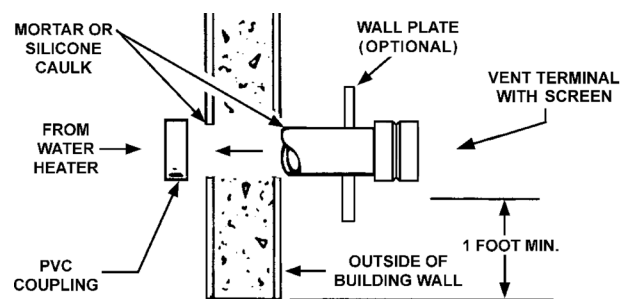
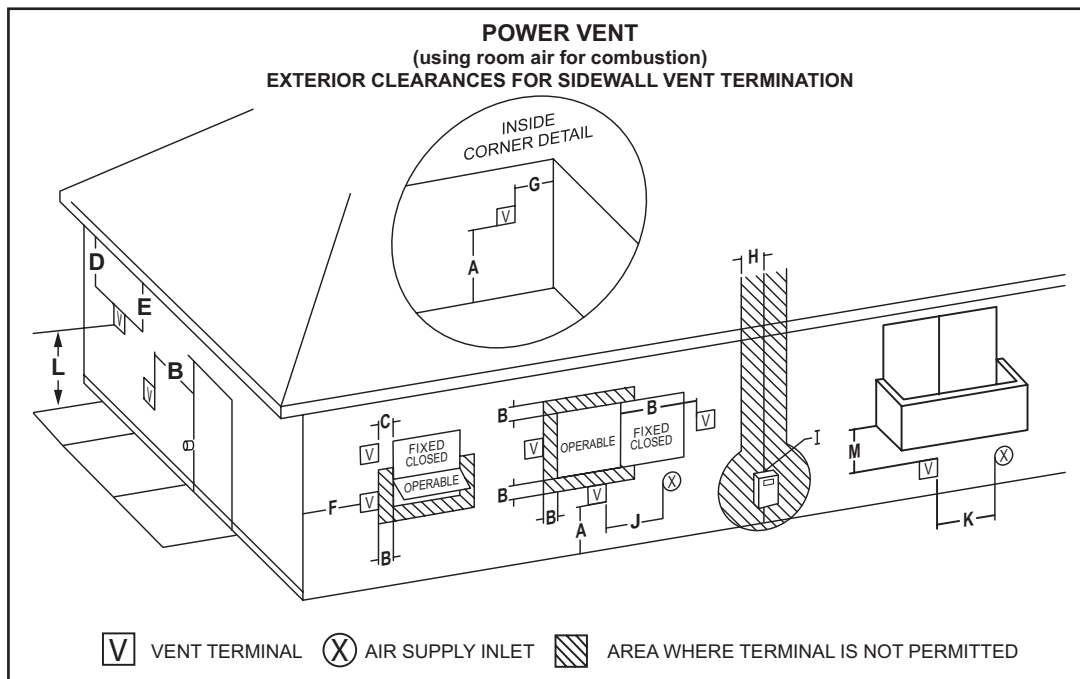
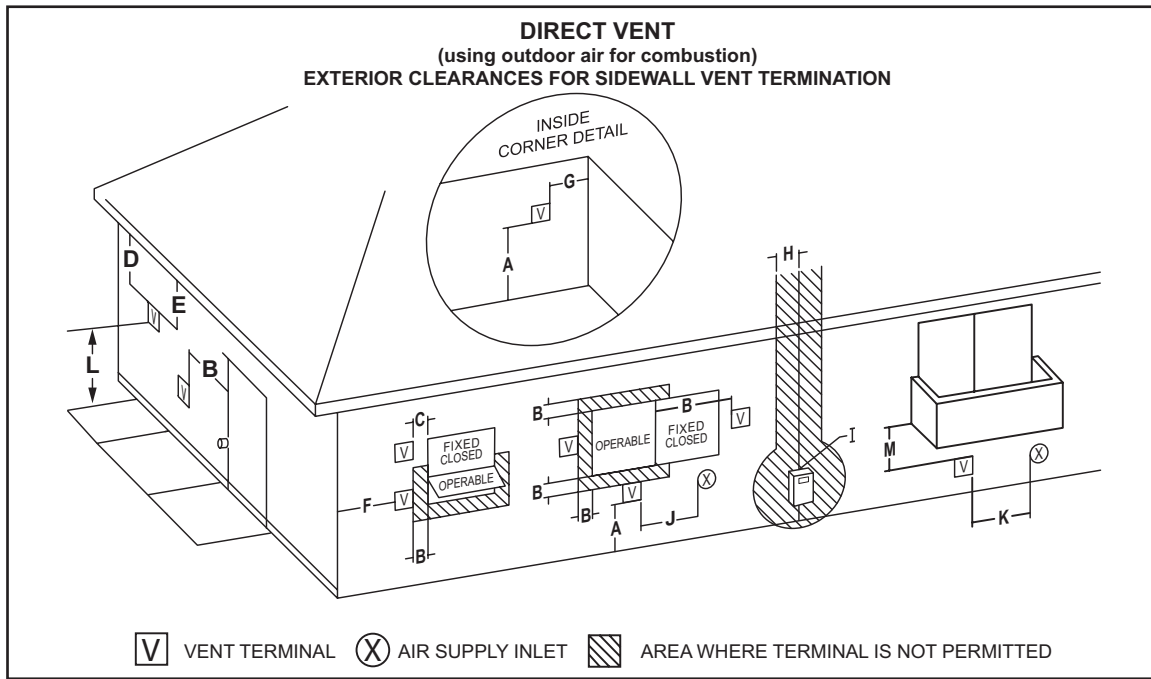

Figure 13: VENT TERMINATION
Figure: 16
Figure: 17
2. Through-the-Wall Termination - horizontal vent termination directly through an outside wall, see "Figure 13: VENT TERMINATION" on Page 27.
Direct venting into dead spaces such as alleys, atriums, and inside corners can cause recirculation of flue gases. Recirculation of flue gases will cause sooting, and icing of the combustion air intake during severe cold weather. To prevent the recirculation of flue gases, maintain as much distance as possible between the combustion air intake and the exhaust vent terminal refer to "Figure: 16" and "Figure: 17" on Page 29 & Page 30 respectively.
The first step is to determine where the vent pipe will terminate. See Figures 13, “Figure: 14A”, and “Figure: 15”. The vent may terminate through a sidewall as shown in Figure 13 and “Figure: 15” or through the roof as shown in “Figure: 16” and “Figure: 17”.
The vent system must terminate so that proper clearances are maintained as cited in local codes or the current edition of the National Fuel Gas Code, (ANSI Z223.1, 12.9.1 through 12.9.4) or the Natural Gas and Propane Installation Code (CAN/CSA-B149.1). See “Figure: 16” and “Figure: 17”.
Instructions on proper installation through a sidewall are provided in Figures 13, “Figure: 14A”, and “Figure: 15”.
Cut a length of pipe about 3.5 inches (8.9 cm) longer than the wall thickness at the opening. Glue the vent terminal to this section of pipe. Slide the wall plate over the pipe to stop against the vent terminal. Place a bead of caulking (not supplied) around the gap between the pipe and wall. Apply enough to fill some of the gap between the pipe and wall. Place some of the caulking on the back of the plate to hold it against the wall after installation. If the vent pipe is installed up to the wall, with a coupling on the end against the wall opening, the pipe with the vent terminal can be prepared for gluing before inserting through the wall. Slide the pipe through the wall and insert into the coupling on the other side of the wall, making sure that the vent terminal ends up pointed in the correct position, see Figure 13.